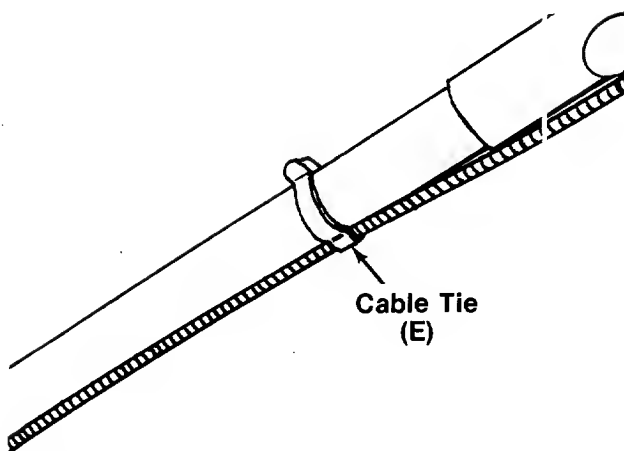

FIGURE 8.
13. Secure throttle control cable and blade brake/clutch cable to upper and lower handles with cable ties (E) provided. See figure 8.